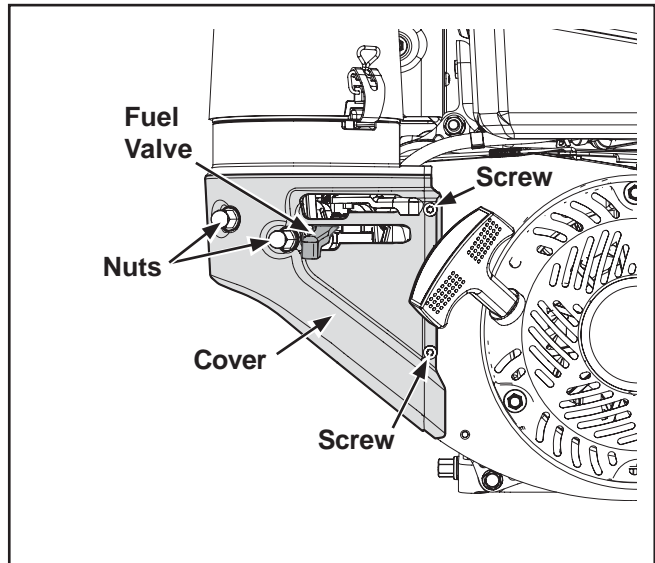

Figure 29. Carburetor Cover Panel.
2. Remove the securing hardware and the carburetor cover panel. See Figure 29.